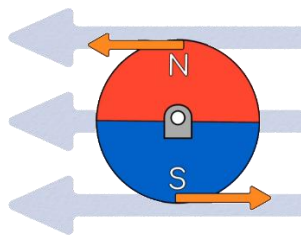
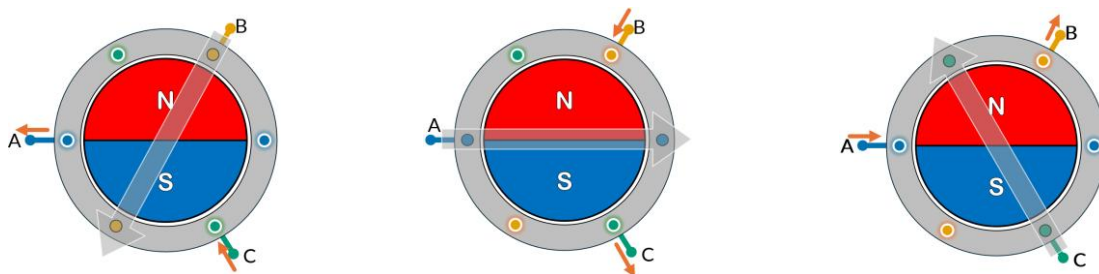

Figure 2. Magnetic Field for Maximum Torque
Figure 3. Magnetic fields generated when energizing coils
15. Determine the control sequence to rotate the motor clockwise. The table will be filled out in the next step. Note that the magnetic field should always be 90 degrees from the magnet to achieve maximum torque as shown in Figure 2. Figure 3 shows magnetic fields in different scenarios of voltage going in and out through 2 phases while the third phase without an arrow is left floating or not connected. For example, the first image shows current going in through coil/phase C (high), out through coil/phase A (low) and B left floating. Neither the magnet position nor the hall sensor location are relevant in this figure. See the Concept Review on BLDCs mentioned in the Application Guide for further information.